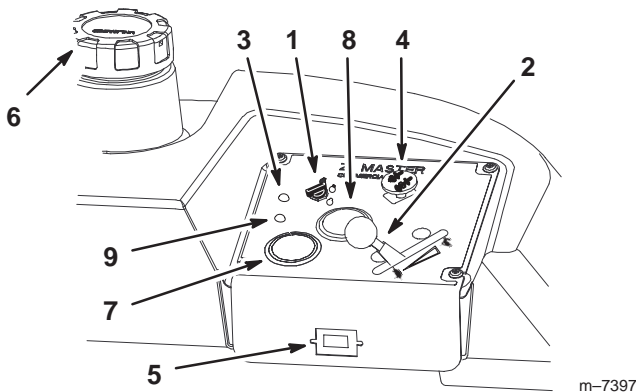

Figure 8
Unlatch the seat and lift it up to view the hour meter (Fig. 8).
The glow plug indicator light turns on when the ignition switch is turned to the On position. When the indicator light turns off, the engine is ready to be started (Fig. 8).
The water in fuel light turns on when there is water in the fuel. When the indicator light turns off, the engine is ready to be started (Fig. 8).
The temperature gauge registers the temperature of the coolant in the cooling system (Fig. 8).
The volt meter registers the output of the charging system (Fig. 8).
5. Move the throttle lever to **slow** (Fig. 8).